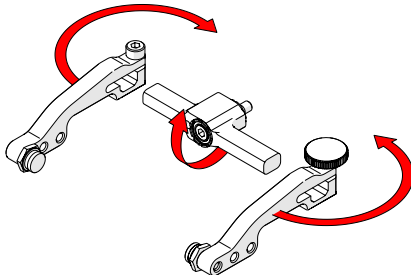

Fig. 94 - Flip yoke and reverse arms
3. Flip the yoke 180° and reverse the probe holder arms (Fig. 94).